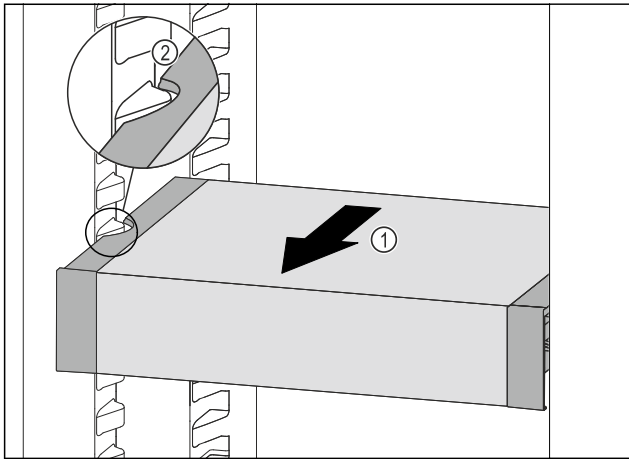

Fig. 126
- ▶ Pull VarioSafe forwards Fig. 126 (1) until the recesses in the side of the VarioSafe are at the level of the support rib in the fridge section. Fig. 126 (2)